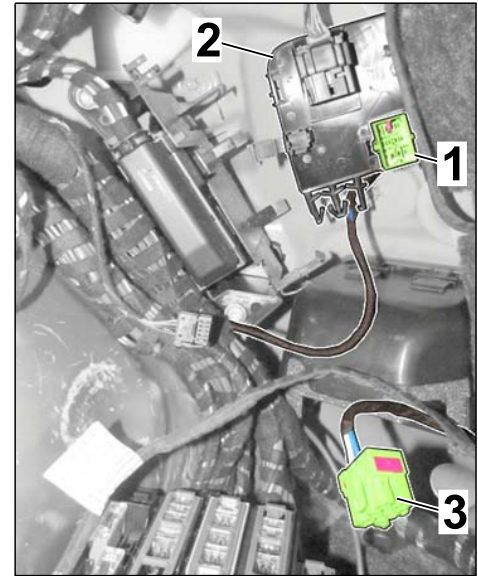

Figure 3
- 2.1.1 Disconnect pin connector socket, green (towbar system preparation) from the holder from the rear (⇒ *Figure 3*).